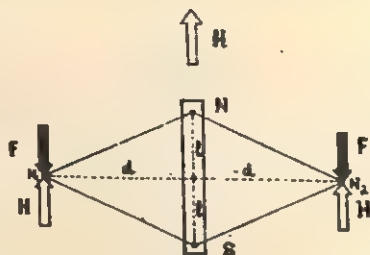

Fig. 12.31.
towards the geographical north then at the points  $N_1$  and  $N_2$  (which are on the broad side on position), the intensities of the magnetic fields  $F$  and  $H$  are equal and opposite,  $F$  and  $H$  being the intensities of the magnetic fields due to the magnet and the earth respectively. But, with reference to Fig. 12.31,  $F$  is given by the following equation :
(5) Determine the position of the poles as discussed in § 12.15 and determine the magnetic length  $2l$ .
(6) To determine,  $M$  and  $m$ , determine also the perpendicular distance ' $d$ ' from the neutral points  $N_1$  and  $N_2$  to the magnetic axis as shown in Fig. 12.31.